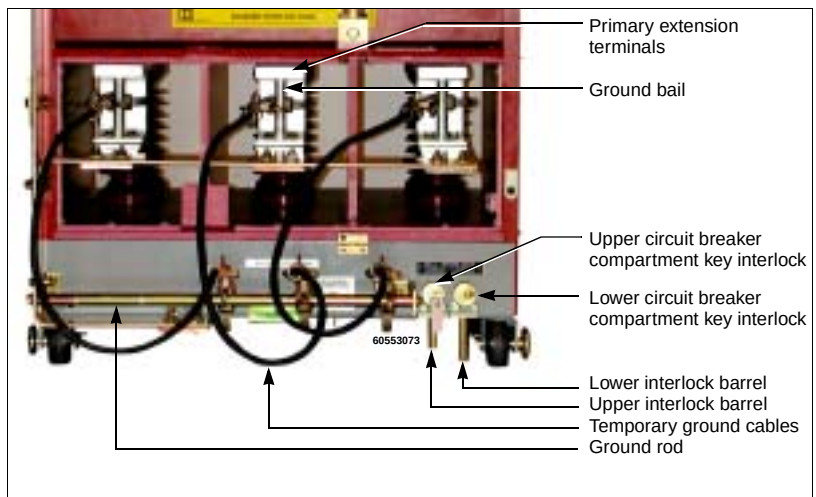

Figure 17: Temporary Ground Cables Installed
1. Check each ground bail (see Figure 17) with a properly rated voltage sensing device to ensure that power is **OFF**. If any voltage is detected **DO NOT** ground the circuit under any circumstance.
2. Using a hook stick, install the three temporary ground cables. Connect the cable end to the ground rod and then connect the other end to the ground bail at the primary extension terminals (see Figure 17).